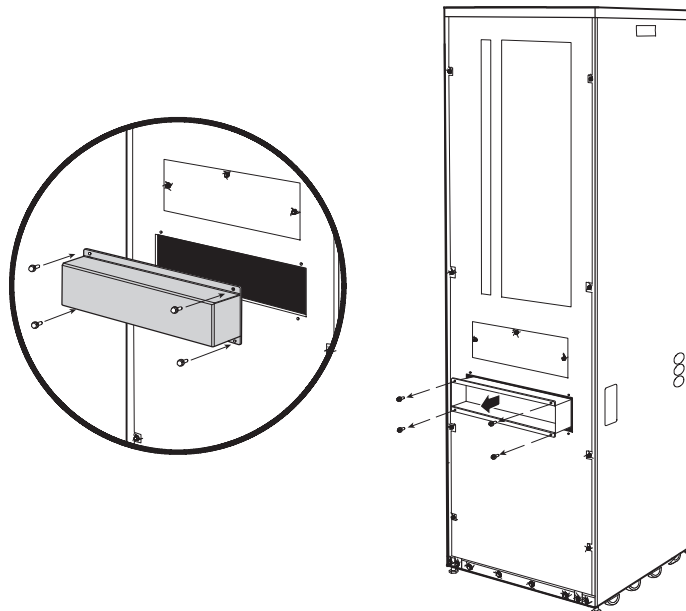

Figure 19. Reversing the Options Cabinet Conduit Landing Box
1. Remove the Options Cabinet conduit landing box from the rear panel and retain (see Figure 19).
8. Reinstall the Options Cabinet conduit landing box in the reversed position (see Figure 19).
1. Remove the Options Cabinet conduit landing box from both Options Cabinet rear panels and retain (see Figure 19 on page 29).
9. Reinstall both Options Cabinet conduit landing boxes in the reversed position (see Figure 19 on page 29).
8. Reinstall both Options Cabinet conduit landing boxes in the reversed position (see Figure 19 on page 29).